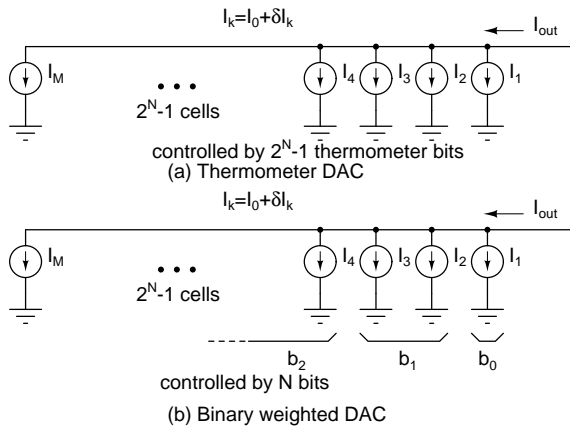

Figure 2:
2. An 10 bit thermometer coded DAC is realized as shown in Fig. 2(a). Relate the standard deviation of the DNL to the standard deviation  $\sigma_{I_0}$  of the relative error in each current source  $\delta_{I_k}/I_0$ . Find  $\sigma_{I_0}$  such that the standard deviation of DNL is 0.1 LSB.
An 10 bit binary weighted DAC is realized as shown in Fig. 2(b). It consists of 1023 current sources. Input bit  $b_k$  controls  $2^k$  current sources. The standard deviation  $\sigma_{I_0}$  of the relative error in each current source  $\delta_{I_k}/I_0$  is the same as in the thermometer coded DAC in the previous problem. How does the INL of this DAC compare to the